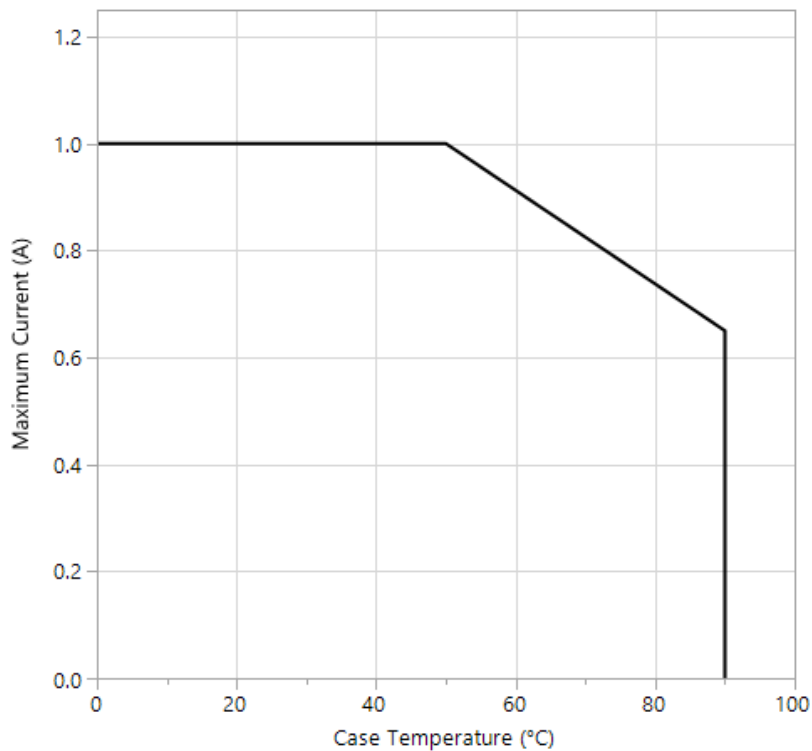

Figure 23: Derating curve for IR channel
***See derating curve (Figure 23)